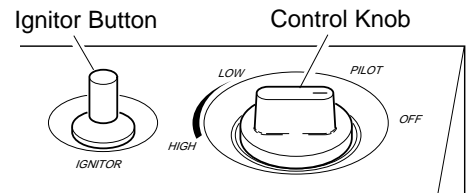

Figure 16 - Control Knob In The OFF Position
4. Wait five (5) minutes to clear out any gas. Then smell for gas, including near the floor. If you smell gas, STOP! Follow "B" in the safety information, column 1. If you don't smell gas, go to the next step.
5. Press in control knob and turn counterclockwise to the PILOT position. Keep control knob pressed in for five (5) seconds (see Figure 16).